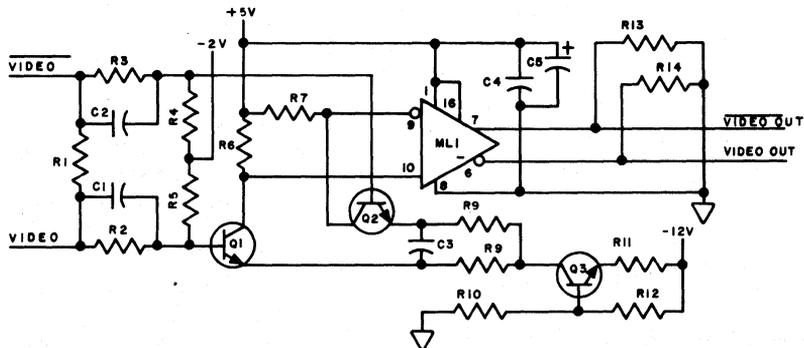

Fig. 3—Video Amplification
2.04 Both the video and the half-intensity channels are amplified in the same manner. Fig. 3 shows the video amplification circuit.